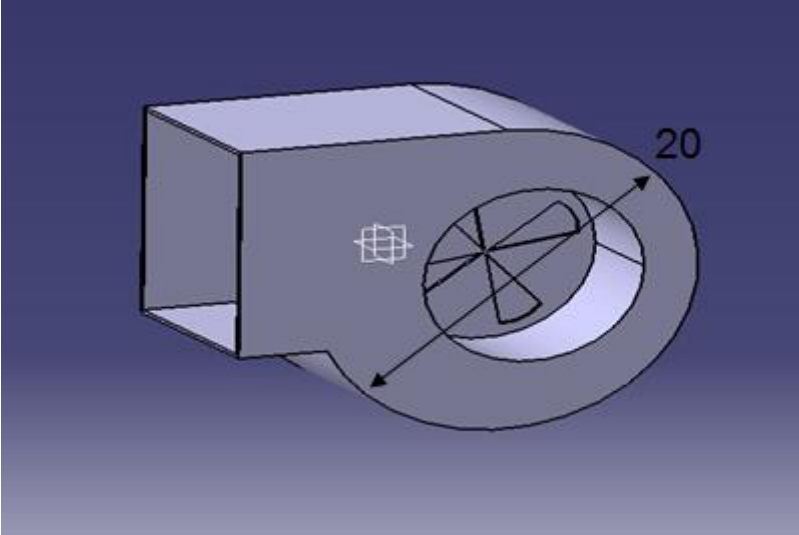

Figure 3.7:Fan
3.fan: uses to cooling the plastic after forming. (**Figure 3.7**)